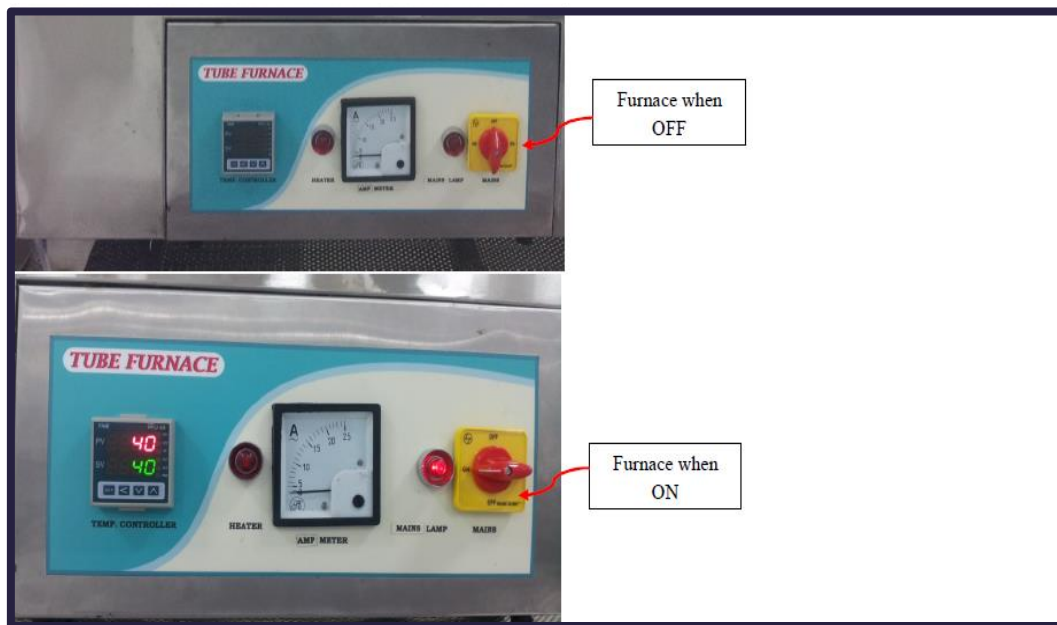

Figure. 4
1. Start furnace by turning MAINS switch on front panel of the furnace (Figure.4).